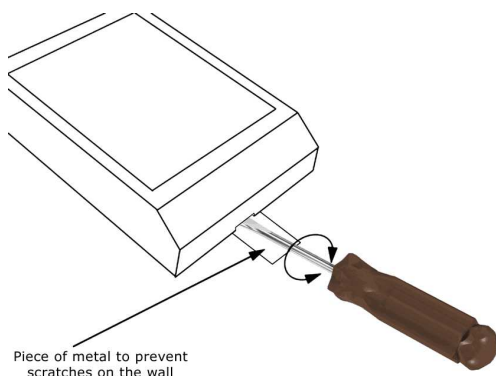

FIGURE 1: SNAPPING OPEN THE COVER
2. Snap open the reader's top cover by inserting a wide screwdriver blade into the slot at the bottom edge of the cover, then twisting the blade gently (see Figure 1).